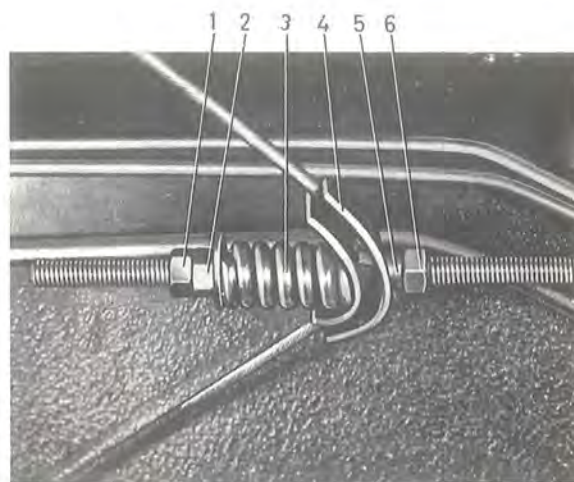

Fig. 5-82. Brake components, right-hand steered vehicle
3. Check that the brake pads are not stuck to the brake disc. To prevent the lever when adjusting from influencing the shoes and thus give misleading results, the spring tension acting on the lever should be reduced. This can be done by fitting holder SVO 2742 (Fig. 5-82) or by disconnecting the cable from the lever.